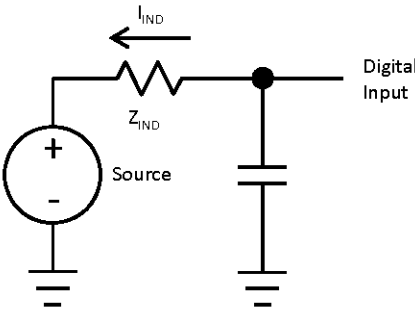

Figure 2. 5 V Tolerant Input IIND Parameter
5. Examples calculated using V_{IL} relation, V_{DD} , and max I_{IND} : $Z_{IND}=V_{IL}/I_{IND}$. This is the impedance needed to pull a high signal to a level below V_{IL} due to leakage when $V_{IL} < V_{IN} < V_{DD}$. These examples assume signal source low = 0 V. See Figure 2.